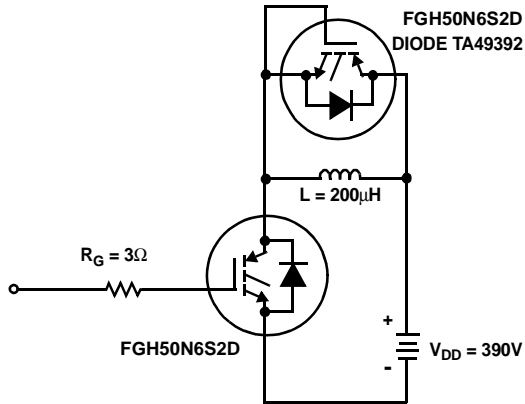

Figure 26. Inductive Switching Test Circuit
| $t_{d(ON)I}$  | Current Turn-On Delay Time  | IGBT and Diode at $T_J = 25^\circ\text{C}$ ,$I_{CE} = 30\text{A}$ ,$V_{CE} = 390\text{V}$ ,$V_{GE} = 15\text{V}$ ,$R_G = 3\Omega$ ,$L = 200\mu\text{H}$Test Circuit - Figure 26 | -  | 13  | -   | ns            |    |
| $t_{d(ON)I}$  | Current Turn-On Delay Time  |   | IGBT and Diode at $T_J = 125^\circ\text{C}$ ,$I_{CE} = 30\text{A}$ ,$V_{CE} = 390\text{V}$ ,$V_{GE} = 15\text{V}$ ,$R_G = 3\Omega$ ,$L = 200\mu\text{H}$Test Circuit - Figure 26 | -   | 13  | -             | ns |
2. Values for two Turn-On loss conditions are shown for the convenience of the circuit designer.  $E_{ON1}$  is the turn-on loss of the IGBT only.  $E_{ON2}$  is the turn-on loss when a typical diode is used in the test circuit and the diode is at the same  $T_J$  as the IGBT. The diode type is specified in figure 26.